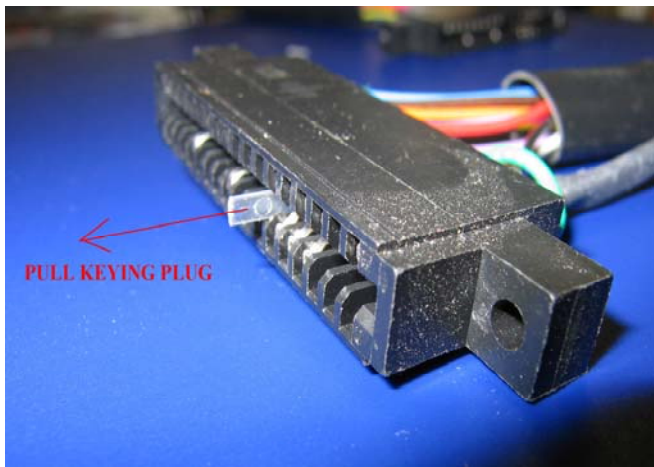
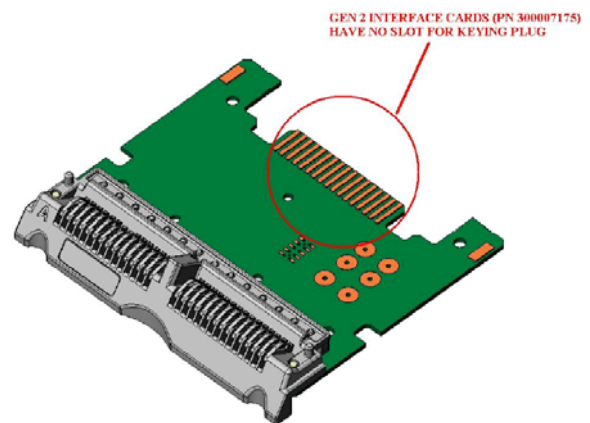

Figure 3
Figure 4
- Remove the plastic keying plug that's in the header preferably with a dental pick. (See Fig2&3) The keying plug that you will remove will be crushed to about ¼ the size of the plug in Fig.3 and will be pressed towards the rear of the header. The newer interface card that the interface harness mates onto doesn't have a cutout for the keyplug. (See Fig.4)